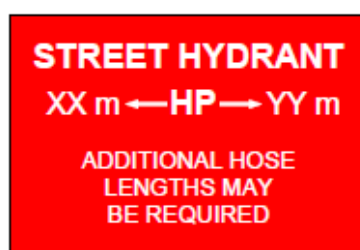

Figure 2 Example of signage required at the front of the building
- 6.1.8 A fade and weather resistant sign, A3 in size, is to be permanently affixed at the front of the building or premises at the most likely access point, and have uppercase contrasting text which states (see Figure 2):